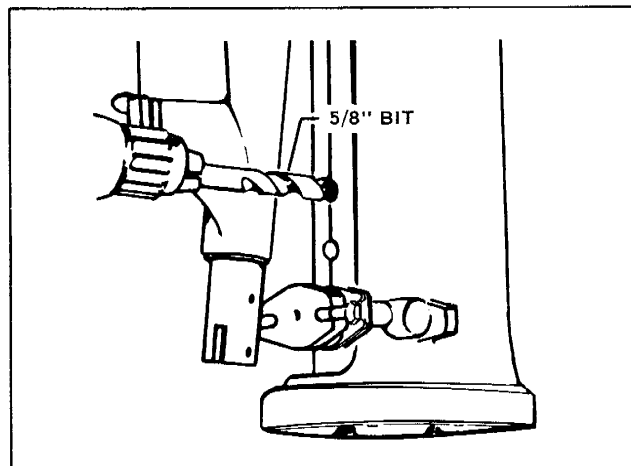

FIGURE 11
- b. Tilt engine and position exhaust housing as shown. See Figure 11. Take care not to damage pilot shaft.